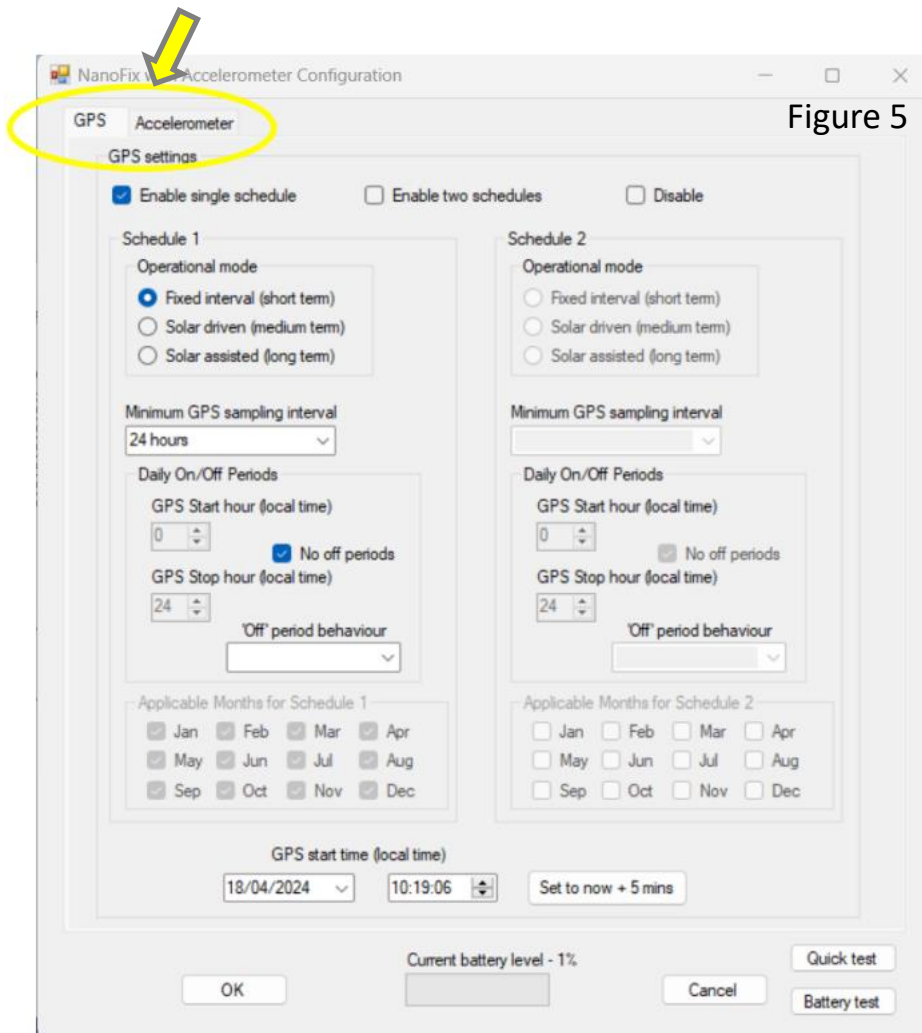
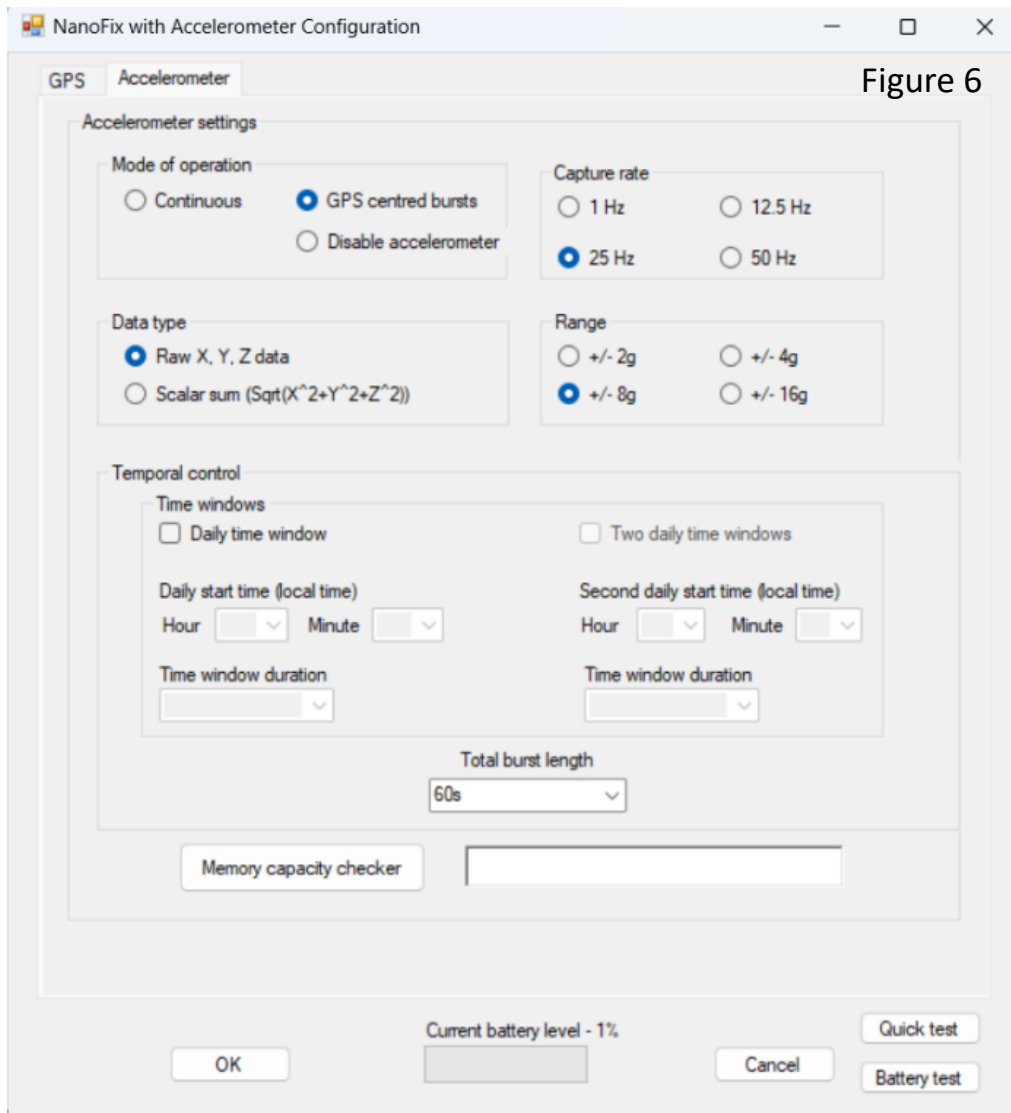

Figure 5
Figure 6
8. As these tags include an accelerometer there are two configuration screens that must be accessed and used in order to fully configure the tags. The two configuration screens appear as separate **tabs** as illustrated in Figure 5 below; one is for 'GPS' configuration (as shown in Figure 5), and one for 'Accelerometer' configuration (as shown in Figure 6, next page).
- The software will automatically pre-populate the recommended deployment settings for your tags. The recommended settings are shown in Figure 5 and Figure 6. Therefore, all that is required is to set the GPS start time and date for the tags on the GPS configuration screen and Click 'OK'.